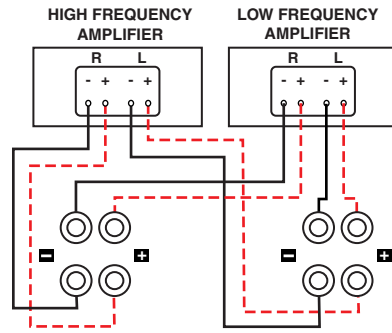

Figure 7
**Bi-amping** (Figure 7) allows you to use separate amplifiers for the high and low frequency sections of your loudspeaker for greater dynamic range and lower distortion. After removing the jumpers, connect the speaker wires from the high frequency amplifier outputs to the upper set of terminal posts on each speaker. Follow the same procedure for connecting the low frequency amplifier outputs to the lower set of terminals. Remember to maintain correct wiring polarity (+ to +, - to -) in all connections.